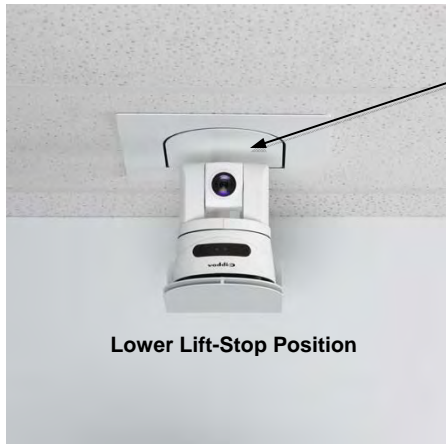

Figure 24:
- C. **Setting the Lower Lift Stop:** Move the lift downward and align the Upper White Décor Plate (the white plate above the camera) with the Ceiling Trim Ring (see Figure 24).